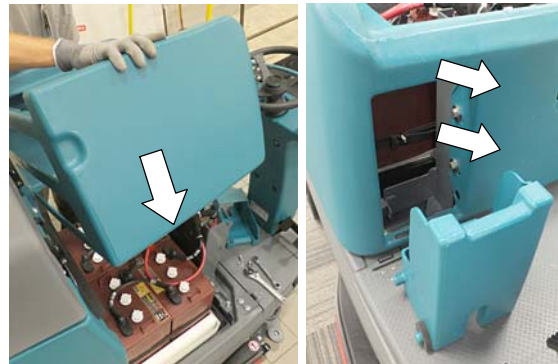

Fig. 23
23. Reinstall the battery box cover onto the machine (Fig. 23).